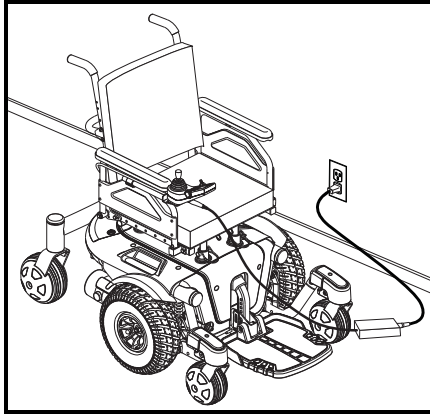

Figure 25. Battery Charging
3. Plug the off-board charger into the off-board charger/programming socket on the controller. See figure 25.